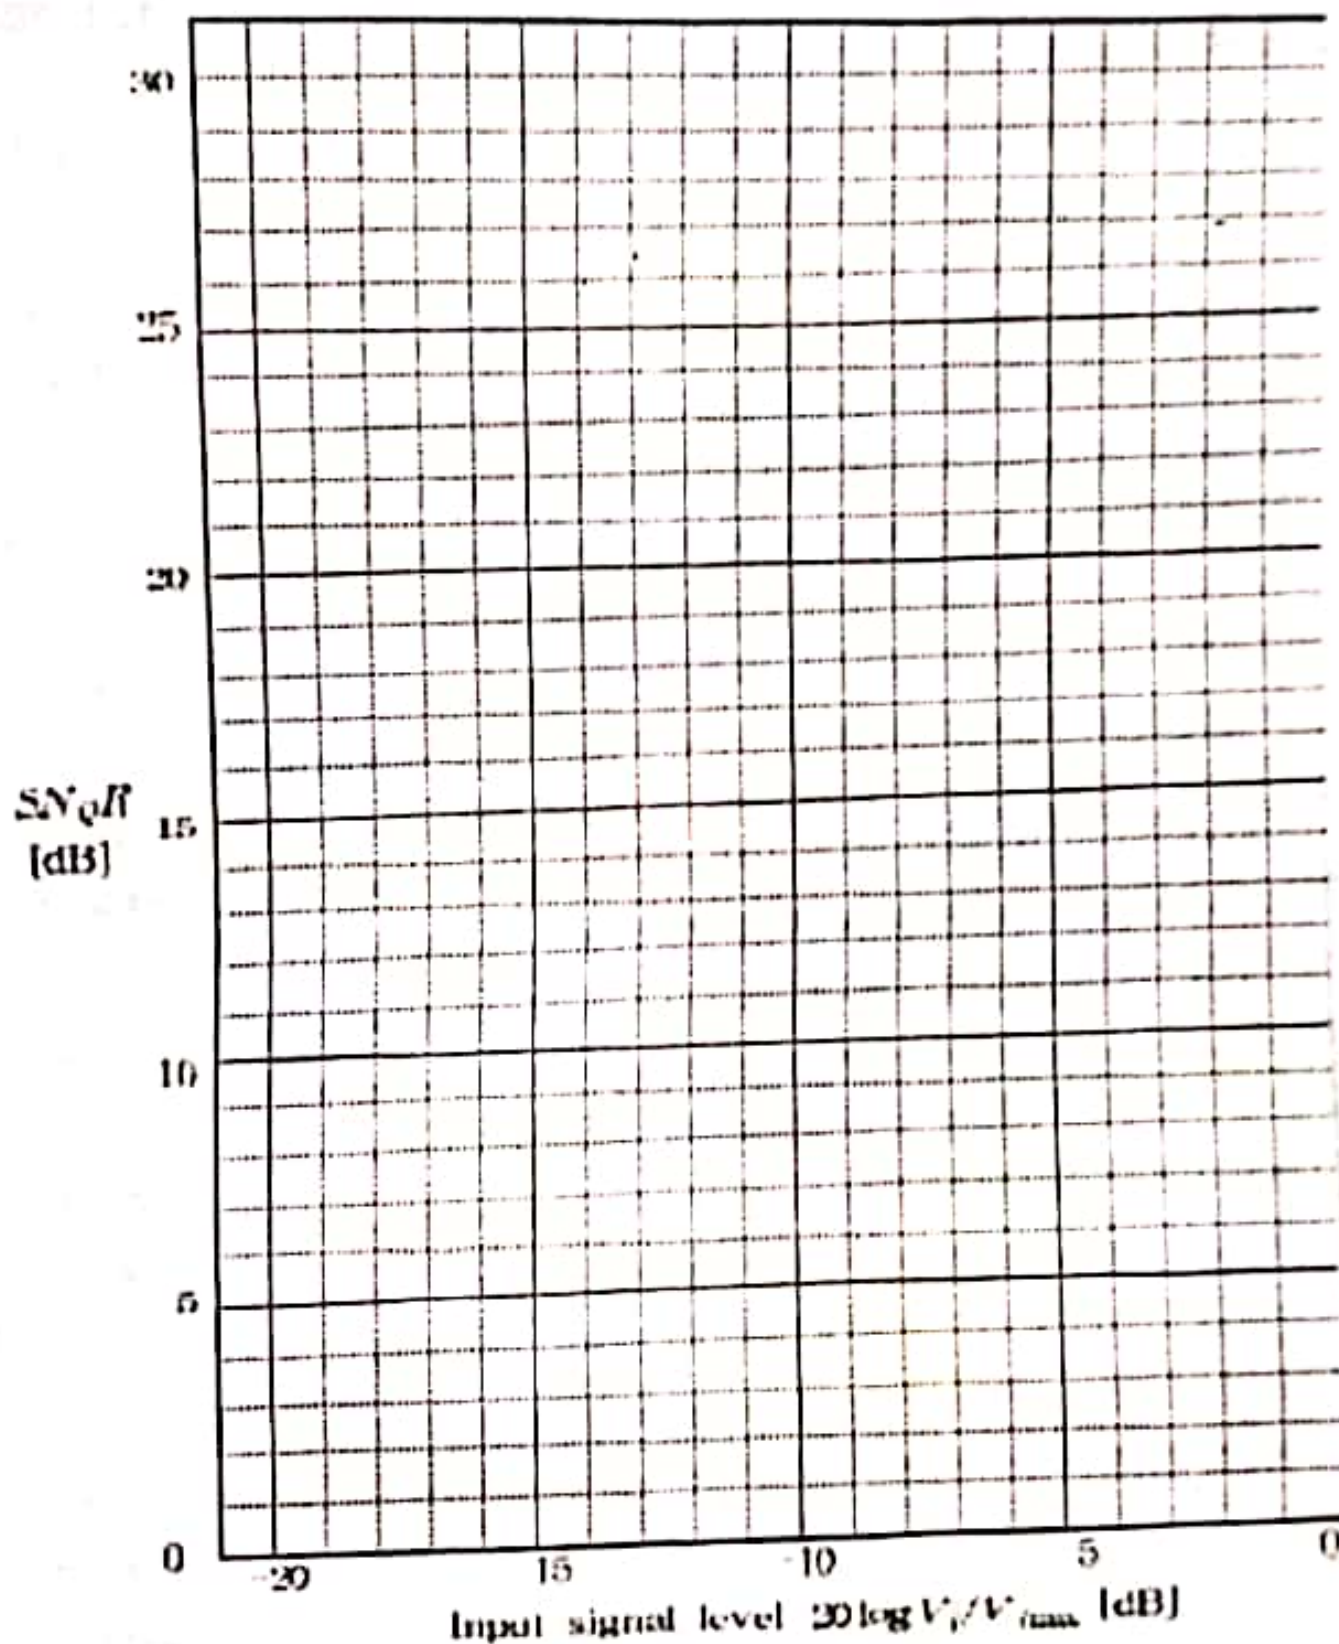

Figure 5-24. Graph of  $SNR$ -to-input signal level
(44) Draw the  $SN_{QR}$  graph on input signal level provided into figure 5-24.